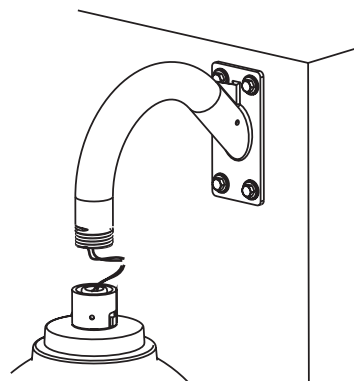

Figure 4
- 5 Make all wiring connections to the housing, following instructions provided with the housing (Figure 4).